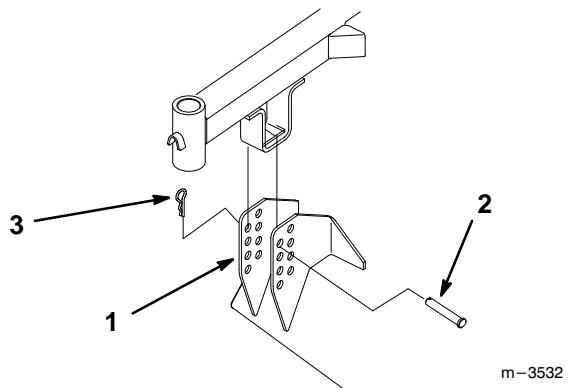

Figure 7
2. Remove hairpin cotters and clevis pins from mower hanger brackets and separate mower from carrier frame (Fig. 7).